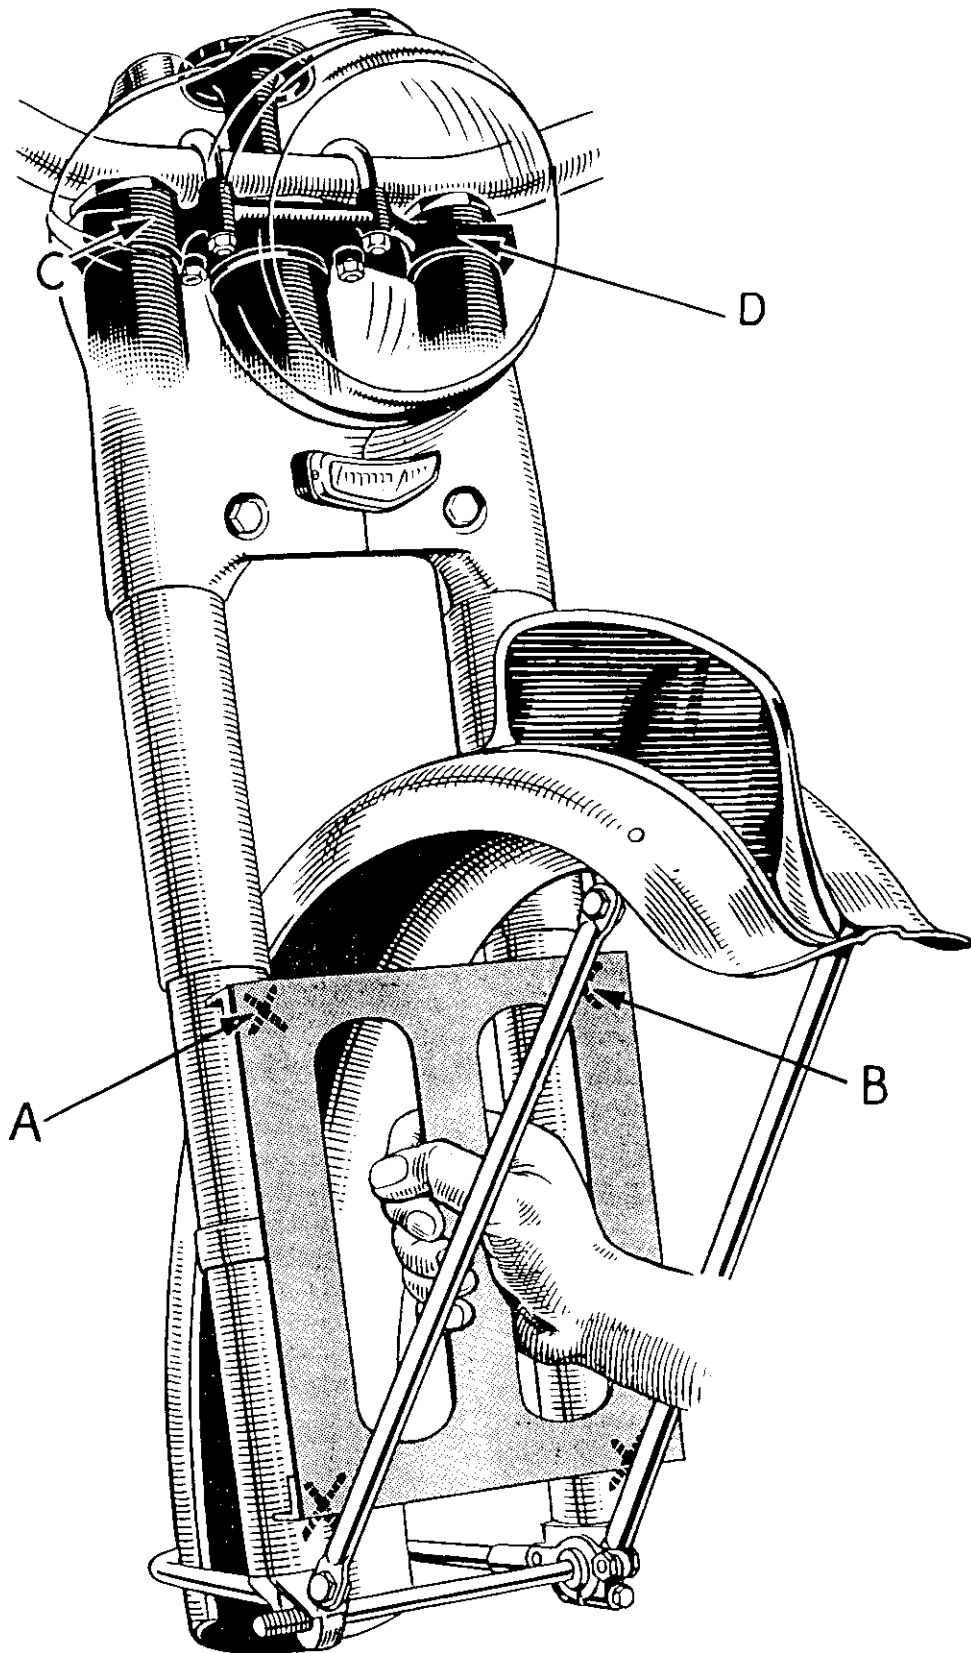

Fig. 7. Use of Front Fork Alignment Gauge.
- (2) Remove the fork stem sleeve nut and undo both stanchion cap nuts. Give the top lug a smart blow upwards to free it from the stanchion tapers.
- (3) Raise the fork top lug to its maximum height with the left hand and support the fork assembly with the right hand. Insert the fork crown stem into the frame head lug, taking care not to disturb the balls in the upper cup. Raise the fork until the stem comes through the frame head lug and the bottom race is fully home. Support the fork under the crown lug and lower the top lug into position and screw on the sleeve nut until it takes the weight of the forks.
- (4) Pour 100 c.c. (1/6 pint) of the correct grade of oil into each leg.
- (5) Tighten both stanchion cap nuts and to ensure absolute tightness use extra leverage on the spanner.
- (6) Carefully screw down the fork stem sleeve nut, one quarter turn at a time, and try to rock the fork assembly fore and aft in the bearing, placing the fingers of one hand on the top bearing dust cover. The correct adjustment should allow the forks to rotate freely with no fore and aft rock. When correct tighten the pinch bolt on the top lug.
- (7) The two holes, tapped 2 B.A., in the top head lug should be central in the clearance holes in the nacelle side portions. To adjust their positions slacken the two middle lug and one top lug pinch bolts and tap the top lug down or the bottom cover tubes up. When the screw holes are in line tighten up the pinch bolts again.
- (8) Fit the wheel spindle in position and place the fork alignment gauge on the lower fork members as indicated in Fig. 7. To avoid scratching the enamel finish on the fork members, apply a smear of grease at the four points. Hold it firmly against the fork legs and if the alignment is correct, contact will be made at all four points, marked "X". If the gauge does not make contact at "A" or "B", slacken off the top lug and middle lug pinch bolts. If the gauge can be rocked at "A" this indicates "D" is too far forward. To remedy, strike the top lug at point "D" a sharp blow with a hide hammer and then make a further check with the gauge. If the error is at "B" the application is similar only at point "C". When the adjustment is satisfactory, tighten the pinch bolts and make another check.
- (9) Assemble the front mudguard and stand to the forks and centralise the mudguard to prevent it rubbing the nacelle covers.
- (10) Fit the handlebar and tighten up the "U" bolts.
- (11) Place the wheel between the forks and insert the wheel spindle from the LH side. Tap the spindle until it protrudes through the opposite fork lug. Fit the brake anchor plate nut and the wheel spindle nut and fully tighten both. Grip the handlebar and work the fork up and down for half a dozen times. This centralises the LH fork leg on the wheel spindle. This must be done, otherwise the fork will be out of alignment. Tighten the LH bottom lug pinch bolt. (See section 5, para. 7 for further instructions).
- (12) Fit the brake lever arm pivot pin and retain with a split pin.
- (13) The 5-way connector must be firmly secured to the right stanchion with a cable clip. Fit the horn lead from the handlebar to one terminal on the horn. (Mk. 2 and 2B only:—Press the red and black parking light into the empty position on the lower end of the 5-way connector).
- (14) Fit the five wires into the connector, matching the colours, and join up the brown horn wire to the remaining terminal on the horn. Pass the wire with the earthing tag through the rear of the nacelle ready to connect to the steering damper anchor bolt. Fit the dip switch assembly to the handlebar. Fit the nacelle top. Ensure that all the